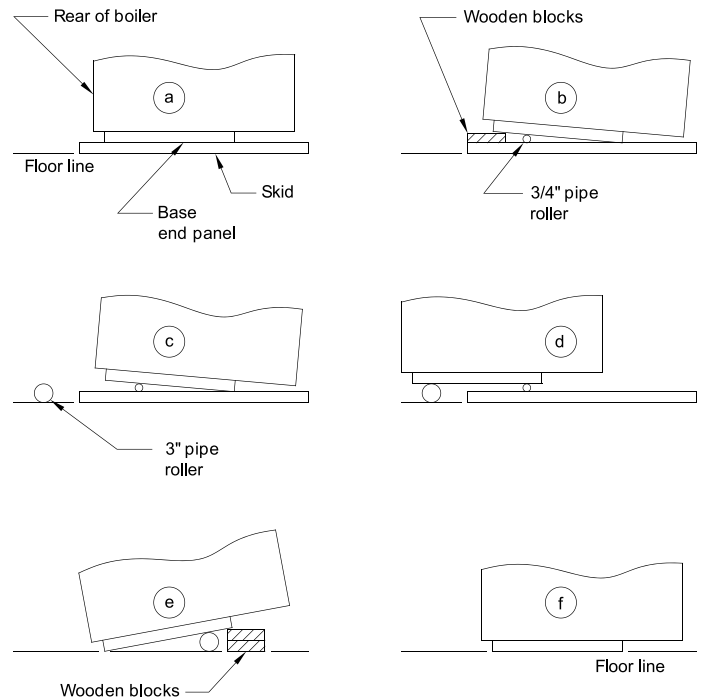

Figure 2-1: Skid Removal
- B. Remove boiler from skid. See Figure 2-1. Exercise care to avoid dropping boiler.